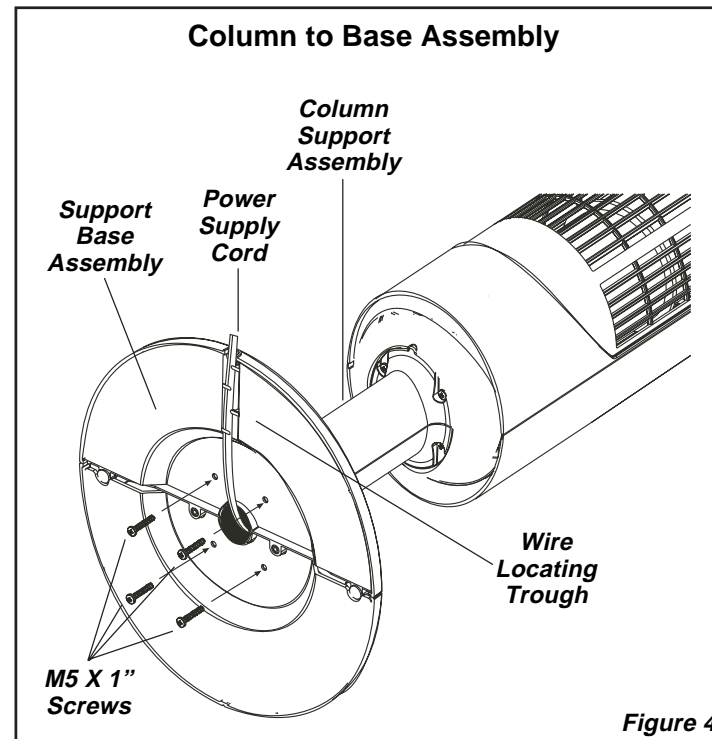

Figure 4
6. Align the **Support Base Assembly** with the **Column Support Assembly**, noting that the cord channel on the bottom of the support base should be towards the back of the Fan. Assemble the **Support Base Assembly** to the **Column Support Assembly** with (4) **1" Long M5 Screws**. Gently pull any excess slack of the **Power Supply Cord** and place it in the **Wire Locating Trough**. (Figure 4)